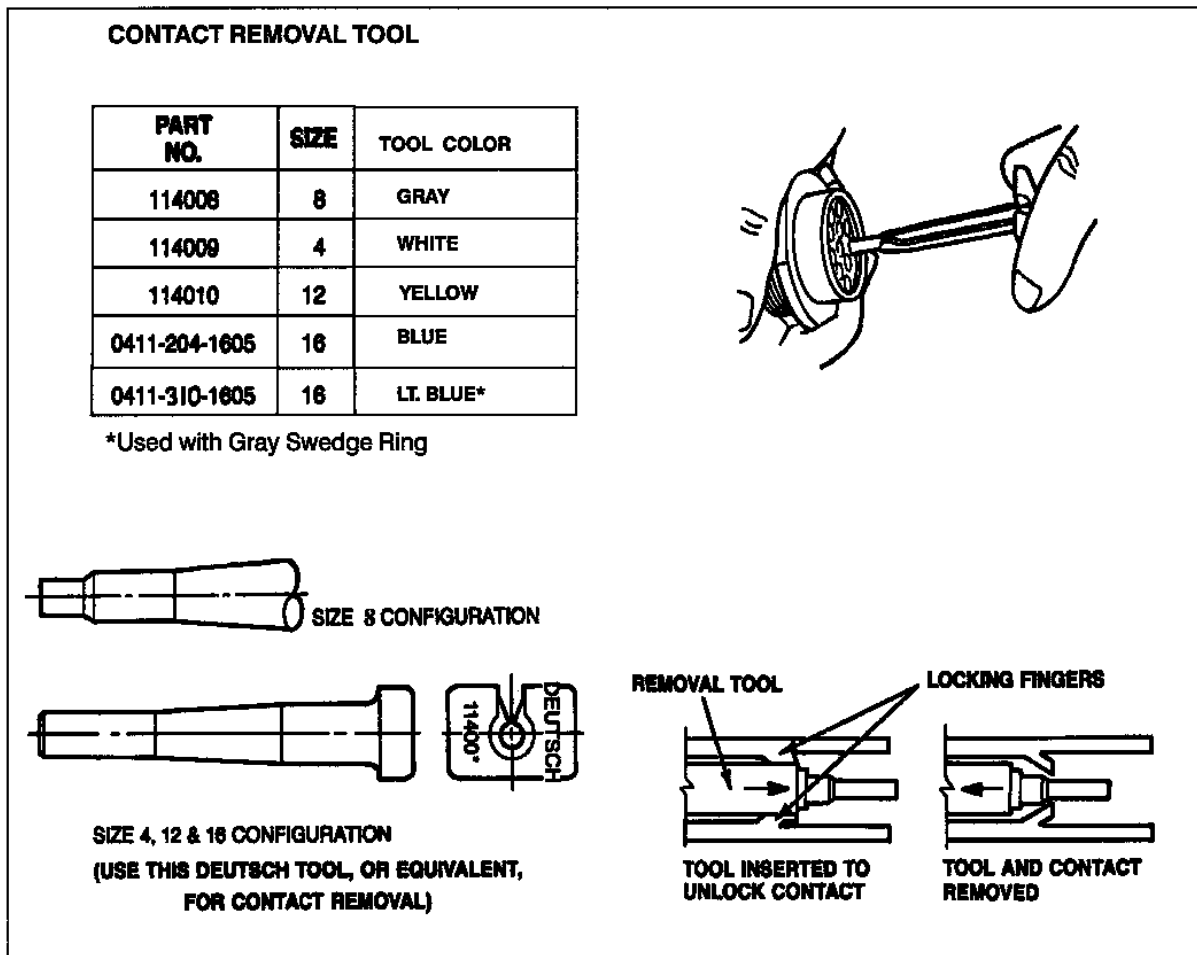

Figure 23 Contact Removal and Removal Tools
1. To remove the damaged contact, snap an appropriate size plastic contact repair tool over the wire of the contact to be removed (Figure 23). If the wire to the contact is broken off, insert the tool into the applicable cavity over the contact. Use a Deutsch tool or equivalent.